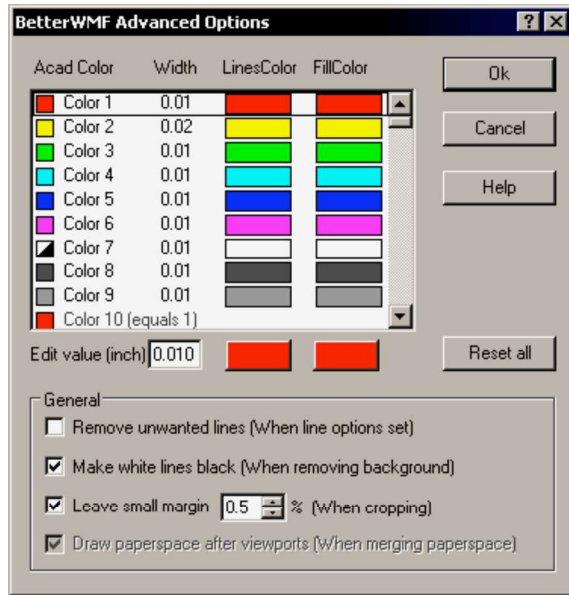

**Figure 2: BetterWMF's options dialog box**
Figure 2 illustrates the BetterWMF Options dialog box which allows you to set line width, size of the exported drawing, and more.
- 3) Set the size of the exported drawing as illustrated near the bottom of Figure 2.